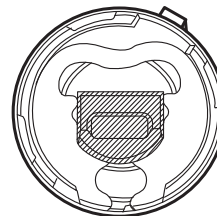

**FIGURE 5**
5. Apply actuator retainer (I) to clip over actuator (H). The leg of the actuator retainer clip (K) must fit into groove on the cylinder (D) head (refer to Figure 5).
6. Insert one (1) tumbler spring (C) into each of the holes located at the end of the tumbler slots on the lock cylinder (D).